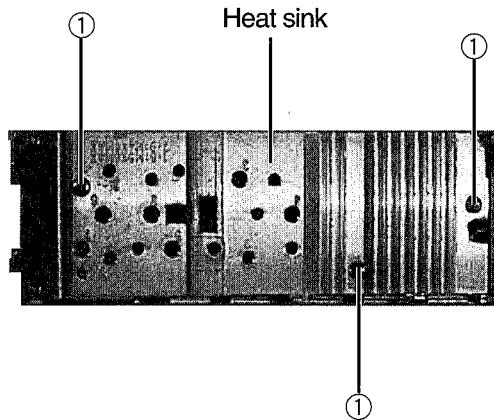

Fig. 5
**■ Removing the Heat Sink ( See Fig. 5 )**
3. Remove the three screws ① retaining the heat sink.